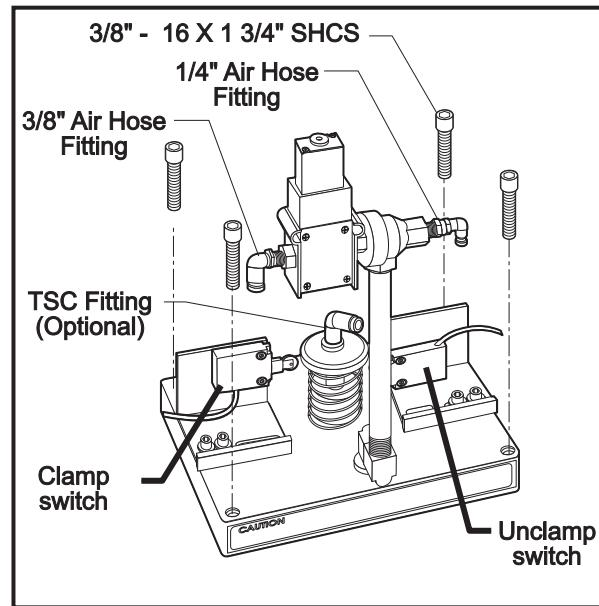

Figure 3-2. Tool Release Piston with Optional TSC fitting.
6. Remove the tool release air hose and precharge hose at the fitting shown in Fig. 3-2. If machine is equipped with TSC, also remove the coolant hose.